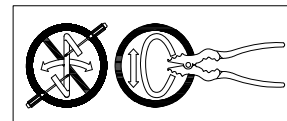

Fig.3
CONNECTING THE WIRES (Fig.3)
15. Connect the electrical wire as shown in figure 3, making sure that all wire connectors are secured. If your outlet has a ground wire (green or bare copper), connect the fixtures ground wire to it. If the junction box has no ground wire, attach the bare copper fixture wire to the green ground screw (Screw: #8-32*3/8"L) on the crossbar. Tuck the wire connections neatly into the ceiling junction box.